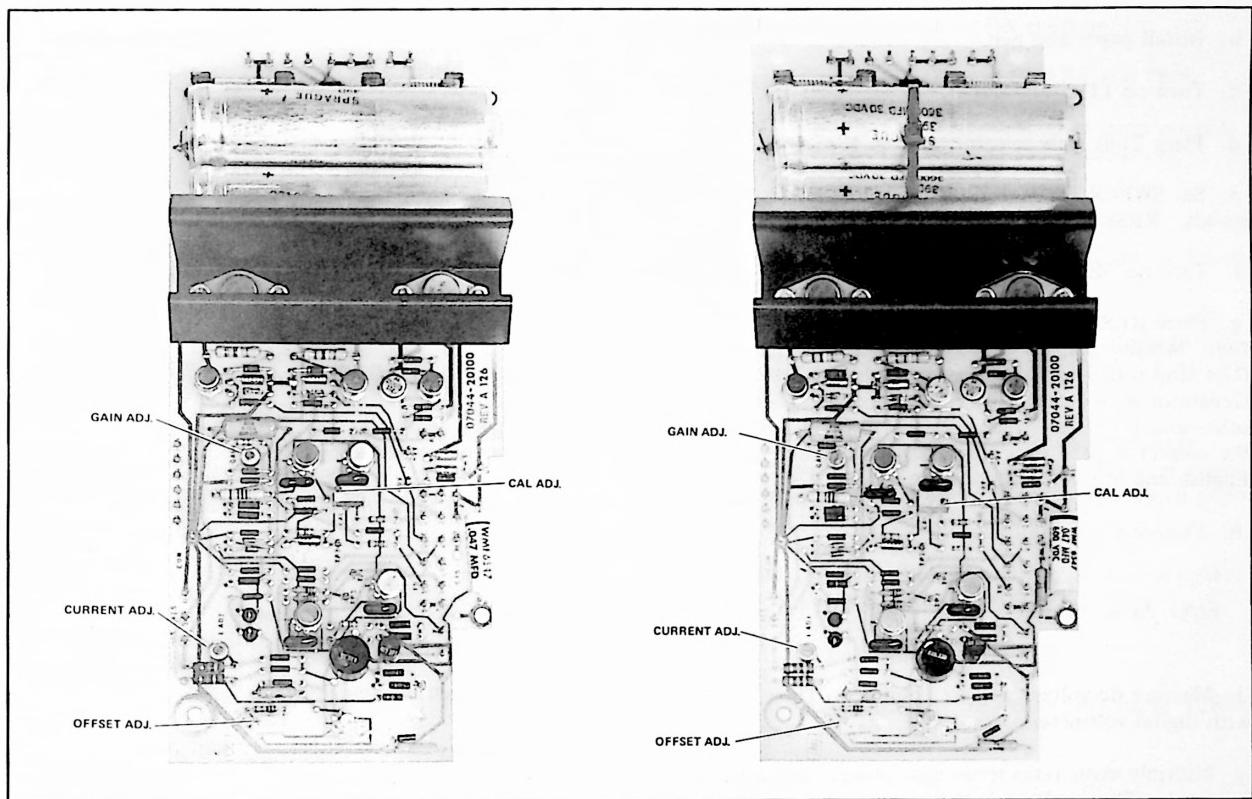

Figure 5-19. Calibration Adjustment
- g. Adjust CAL control (A3R22-7044A) (A3R24-7045A) on X-axis DC Amplifier Board. See Figure 5-19.
- m. Adjust CAL control (A2R22-7044A) (A2R26-7045A) on Y-axis DC Amplifier Board. See Figure 5-19.
- c. On X-axis Amplifier Board, measure voltage between TP1 and circuit common using a Digital Voltmeter. Adjust potentiometer marked OFFSET until voltage is  $0\text{ V} \pm 10\text{ mV}$ . See Figure 5-19.
e. Adjust potentiometer marked I ADJ on X-axis Amplifier Board until voltage at TP1 returns to  $0\text{ V} \pm 10\text{ mV}$ . See Figure 5-19.
5-96. A potentiometer marked GAIN is provided on each Amplifier Board. Normal setting is in center of adjustment span. If axis fails resetability specification (see paragraph 5-45, Resetability) increase gain by turning GAIN potentiometer clockwise. If servo oscillates, turn potentiometer counterclockwise to decrease amplifier gain. See Figure 5-19.